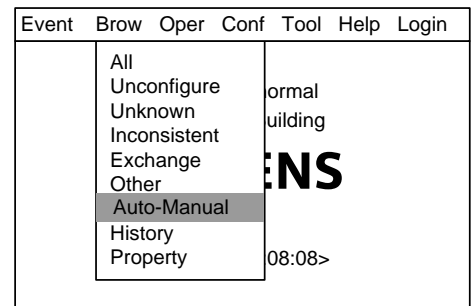

Fig.37-2
2. Press "→" to select "Brow" submenu (Fig. 37-2). Press "↓" to select "Auto-Manual" and then press "OK". The summary of controller's auto/manual status window displays.